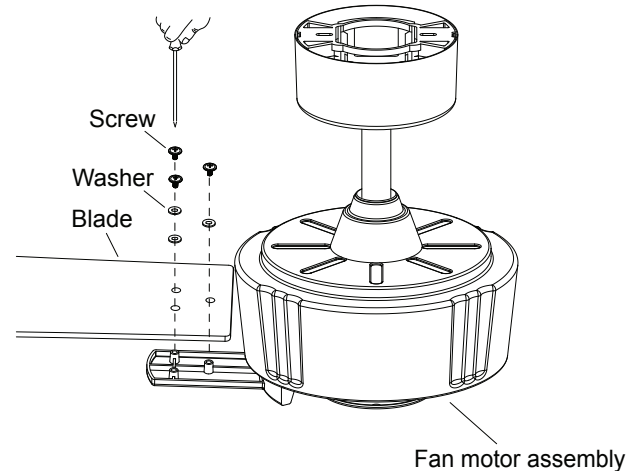

Fig. 17
**Step 1.** Align the holes from the blade and washer to the holes from the blade arms, and secure the blade in place with screws provided. (Fig. 17)